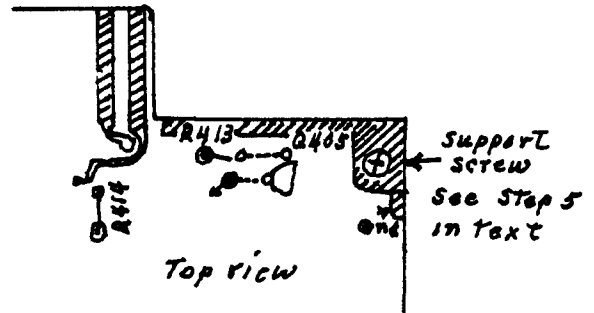

Figure 1. Control head before additions.
5. Remove the support screw shown in Fig. 1.
7. In Fig. 1 you will see that holes were drilled for R413 and Q405, but were not used. Also note the connections (dotted) that are between the two sets of holes.
16. Install the support screw shown in Fig. 1 first, then the four plate-holding screws.